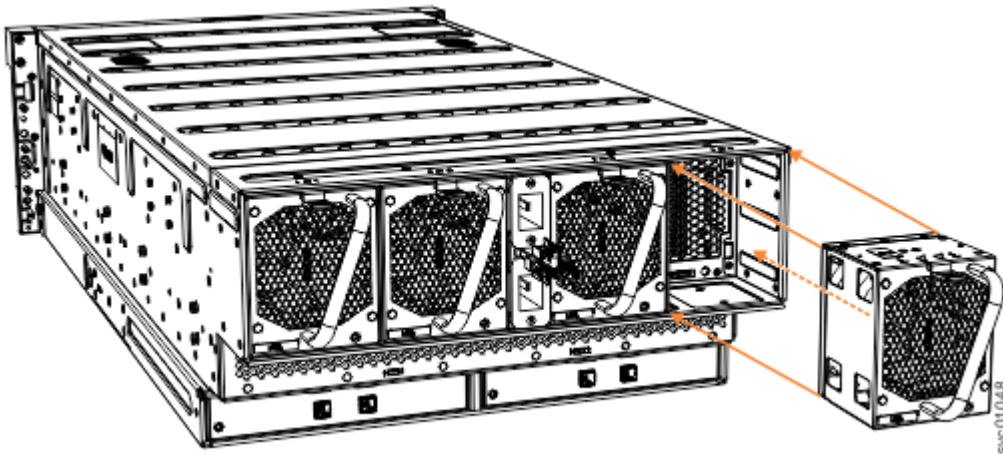

Figure 158. Remove and replace a fan module
3. Use the handle to pull the fan module out of the expansion enclosure chassis, as shown in Figure 158 on page 204.
6. Carefully insert the fan module into the chassis until it clicks in place, as shown in Figure 158 on page 204.